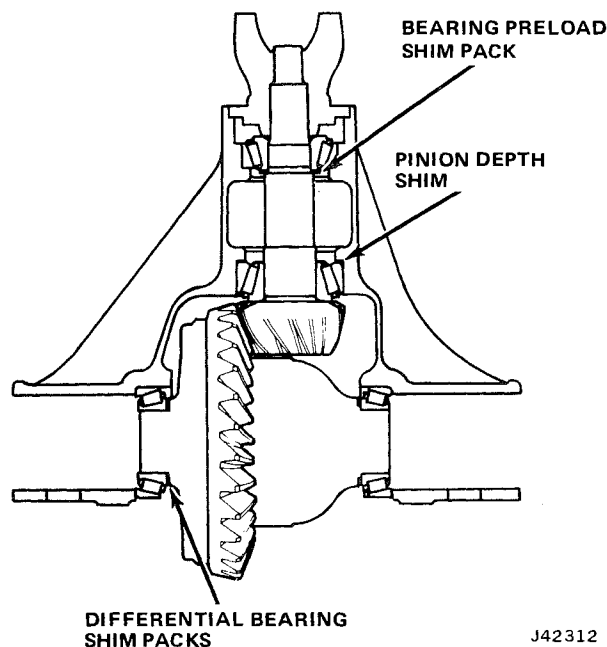

Fig. 2F-51 Differential Shim Locations
Pinion gear depth is the distance, measured in inches, from the end face of the pinion gear to the axle shaft centerline (fig. 2F-35). This dimension is controlled by shims installed between the pinion rear bearing and axle housing (fig. 2F-51).
Ring and pinion gear sets are factory tested to detect machining variances. Tests are started at a standard setting which is then varied to obtain the most desirable tooth contact pattern and quietest operation. When this setting is determined, identifying numbers are etched on the the ring and pinion (fig. 2F-36).
If the pinion is marked +2, the gear set varied from standard by +0.002 inch and will require 0.002 inch less shims than a set marked zero (0). When a set is marked +, the distance from the pinion button face to the axle shaft centerline must be more than the standard setting. If the pinion is marked -3, the set varied from standard by -0.003 inch and will require 0.003 more shims than a set marked zero. When a set is marked zero, the distance from the pinion button face to the axle shaft centerline must be less than the standard setting. Refer to Figure 2F-35 for an illustration of the standard setting dimension.